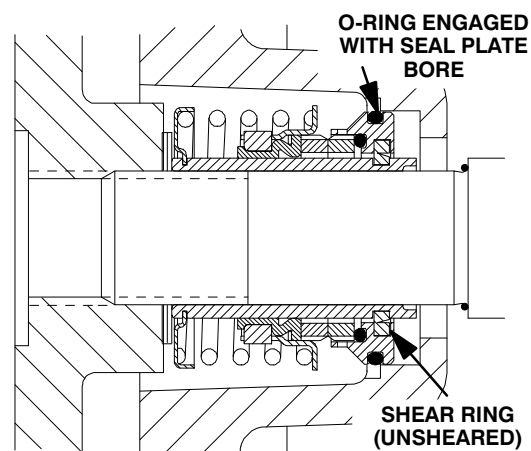

Figure 13. Seal Partially Installed
Clean and inspect the impeller as described in **Impeller Installation and Adjustment**. Install half of the set of impeller shims (2) provided with the seal, and screw the impeller onto the shaft until it is seated against the seal (see Figure 13).